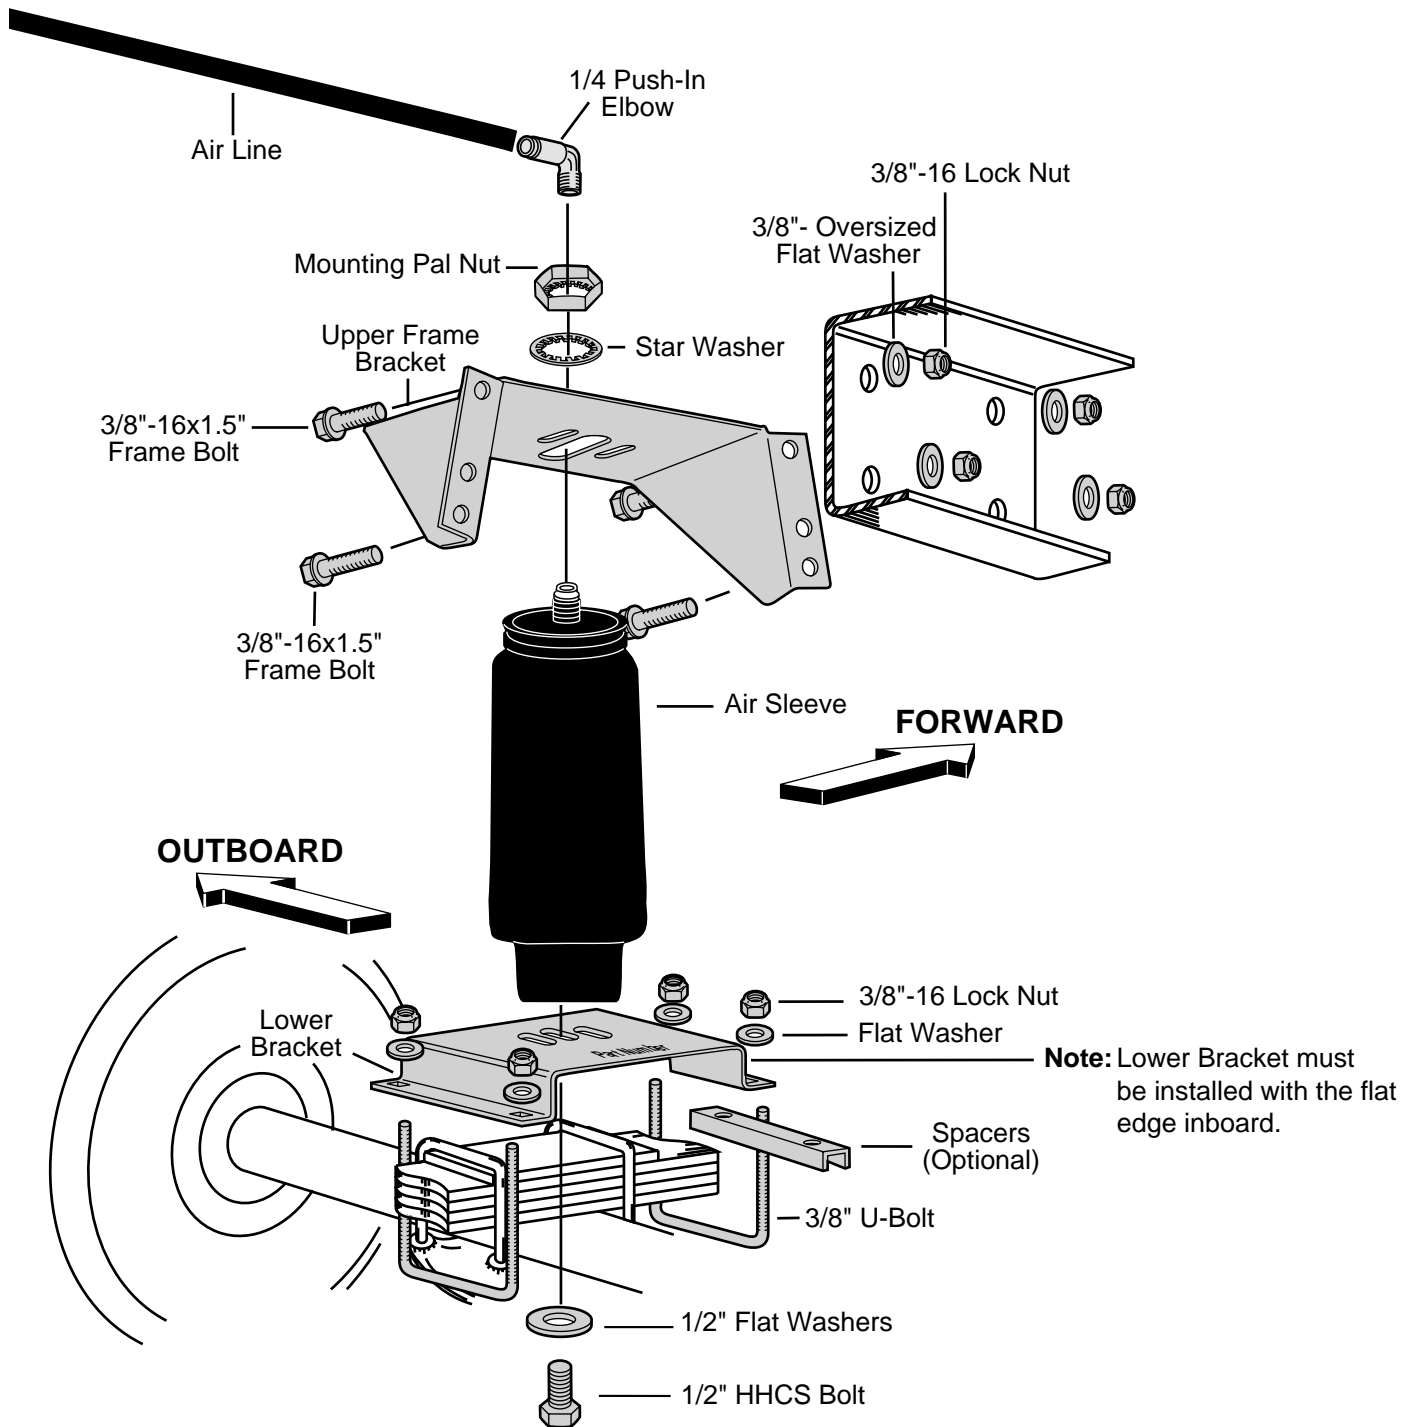

FIGURE 1
6. Set the assembly on the leaf spring centered over the axle and attach the lower bracket as shown in Figure 1 using the U-Bolts, flat washers and lock nuts. Tighten nuts to 20 ft-lbs.